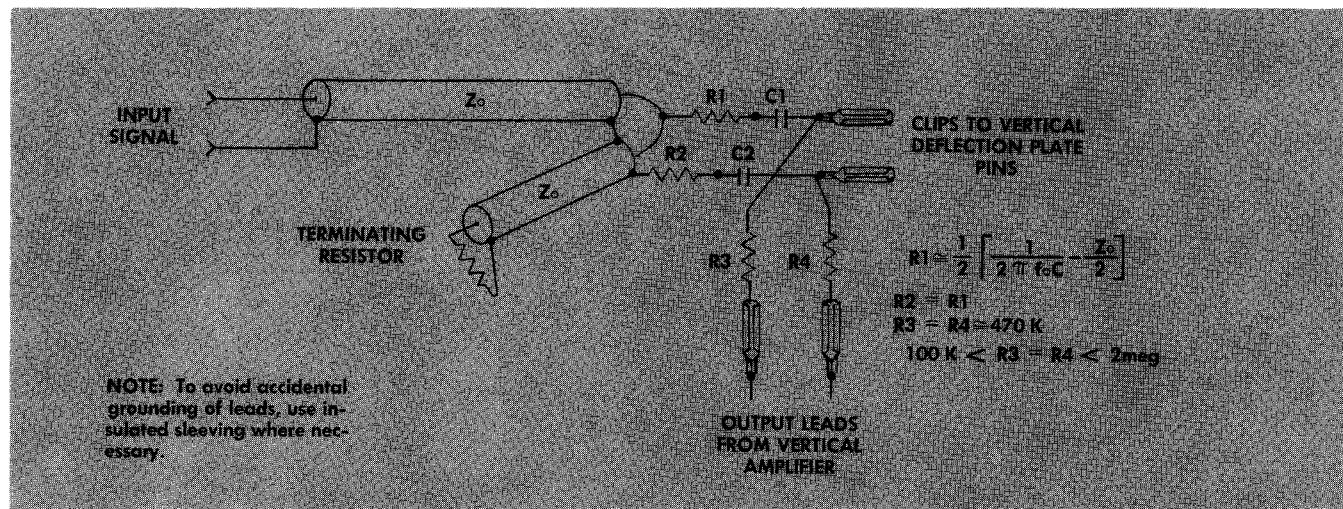

Fig. 3-8. Detailed method of ac-coupling the signal directly to the vertical deflection plates.
A typical circuit for ac-coupling directly to the vertical deflection plates is shown in Fig. 3-8. This circuit permits the internal vertical amplifier of the oscilloscope to be bypassed, but still allows the normal dc operating and positioning voltages to be applied to the deflection plates from the internal vertical amplifier. However, when using this circuit, you must use a high-quality external delay line
Only approximate values for two of the parts are given. The values of these and all other parts depend upon the crt, cable impedance, and lead lengths. Later on, some set-ups employing a 540-Series Oscilloscope are illustrated and described to show how optimum results were obtained by modifying the circuit shown in Fig. 3-8 to suit the specific application.
To find the resonant frequency ( $f_0$ ) of the lead inductance and the deflection plate capacitance (C) for use in the equation shown in Fig. 3-8, use the method that follows. Turn off the oscilloscope power and disconnect the vertical amplifier output leads to the crt. Cut a wire loop which equals the total length of C1, C2, R1, R2, R3, R4. Substitute the wire loop for these components between the vertical deflection plate pins. Bring a grid-dip meter near the loop and measure the resonant frequency.
The value of R1 is found by solving the equation in Fig. 3-8. Make R2 the same value as R1.